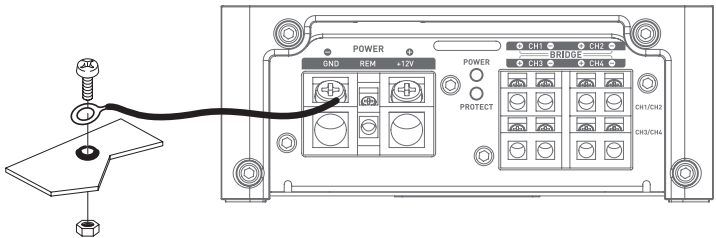

fig. 2
- 10 - Prepare the chassis ground (earth) by removing all traces of paint from the metal surface, thus ensuring a good ground (earth) contact. Ground (earth) connections should be as short as possible and **ALWAYS** connected to metal welded to the vehicle bodywork or chassis (**Fig. 2**). The grounding (earthing) point usually chosen is the one used to connect the negative terminal of the battery to the vehicle chassis.
**3.3.2 –** Locate the negative [-] power cable. This cable should be as short as possible and ideally should not exceed 1 meter in length, in order to ensure an optimal connection between the amplifier and the vehicle chassis. The cable and its gauge must be in accordance with the table in 3.1. Locate an appropriate ground (earth) point, then sand it to remove all traces of paint or other finish, thus optimising the quality of the connection. Drill through the sheet metal you have previously sanded, making a hole to match the bolt you have chosen, ensuring you are well clear of all cable routes, reservoirs or tanks or other sensitive vehicle parts. Solder and insulate (using heat shrink sleeving) the earth cable to the FPX amplifier earth connector supplied (*Fig. 2*).